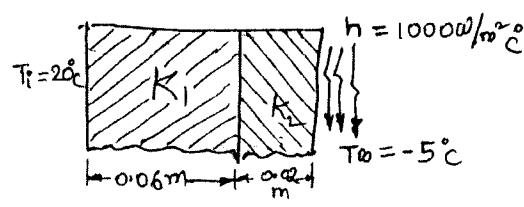

Fig.Q7(b)
b. Determine the temperature distribution through composite wall shown in Fig.Q7(b) where the convective heat loss occurs on the right surface. Take  $K_1 = 6 \text{ W/m}^\circ\text{C}$  and  $K_2 = 20 \text{ W/m}^\circ\text{C}$ . (10 Marks)